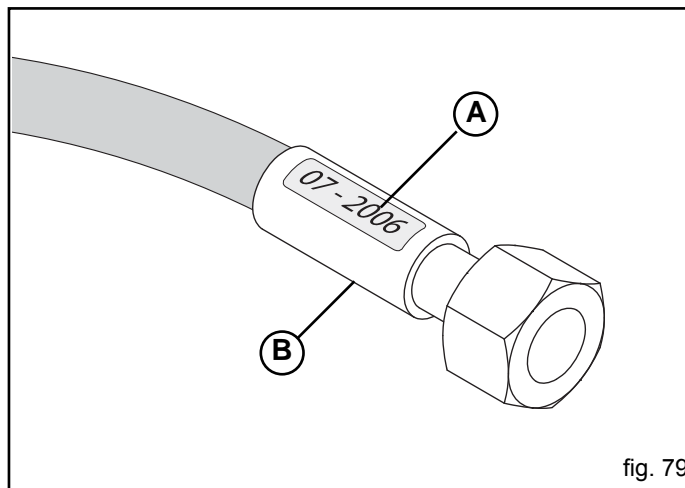

fig. 79
- when leaks are identified near the pipe sheath (B, Fig. 79);
- when the sheath is corroded (B, Fig. 79);
- 5 years after their manufacture (A, Fig. 79).